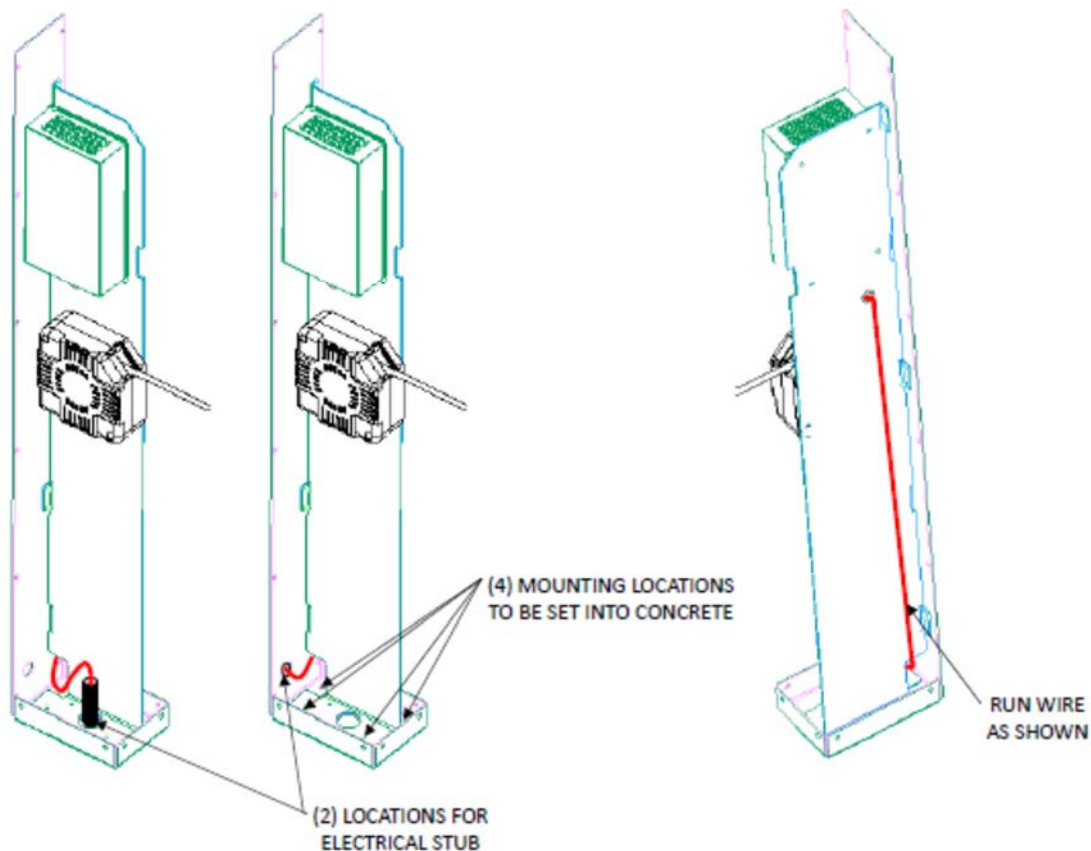
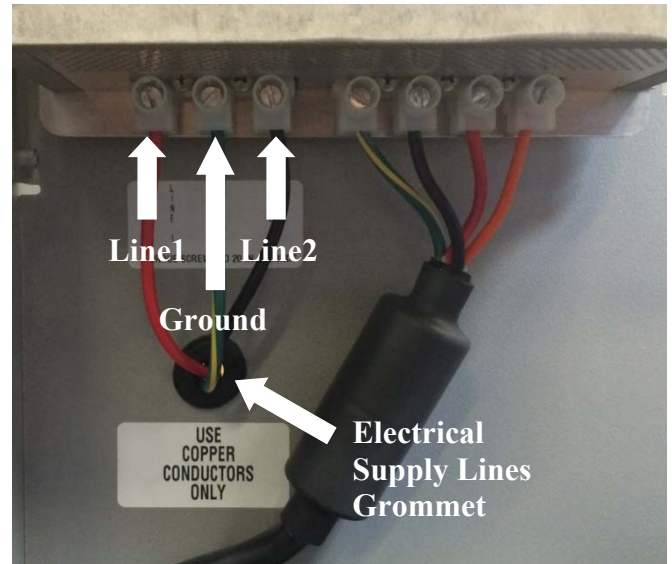

Figure 6 – Input Wiring Routing
Figure 7 – Input Wiring Termination
⚠ IMPORTANT: Torque fasteners to concrete anchor manufacturer's recommended torque value. (See Figure 6)
8. Feed electrical supply through either rear or bottom entry location on left of unit. If rear entry is used, secure conduit to rear housing with appropriate hardware. Feed wires from left to right of unit through bottom rear wire access hole. Route cable upwards and feed from right to left of unit through cable pass-through grommet between cord reel and circuit board. (See Figure 6 on previous page and Figure 7 below)
9. Terminate Line1, Line2, and Ground wires per Figure 7.
10. Install the 6 screws in the lower front and sides of the unit that attach the front housing to the charging base. (See Figure 6 on previous page)
<p>None of the status lights are illuminated. L2 PowerPost® EVSE does NOT charge vehicle when charge coupler is plugged in.</p>	<ul style="list-style-type: none"> • Interrupt power to the L2 PowerPost® EVSE and lock out as appropriate. Disassemble unit per steps 3-5 above. Restore supply power to L2 PowerPost® EVSE. Verify that proper supply voltage is present at the L2 PowerPost® EVSE terminal block. (See Figure 7) • Interrupt power to the L2 PowerPost® EVSE and lock out as appropriate. Verify that supply power wiring is securely terminated to incoming power terminal block. • Interrupt power to the L2 PowerPost® EVSE and lock out as appropriate. Remove incoming power fuse and verify continuity. Replace fuse if blown. • If these steps do not resolve the problem, contact Konnectronix technical support.
4. Disconnect the supply wiring and cord reel wiring from their respective terminal blocks. (See Figure 7 in the Installation section)
8. Reconnect the supply wiring to the terminal block per Figure 7 in the Installation section.